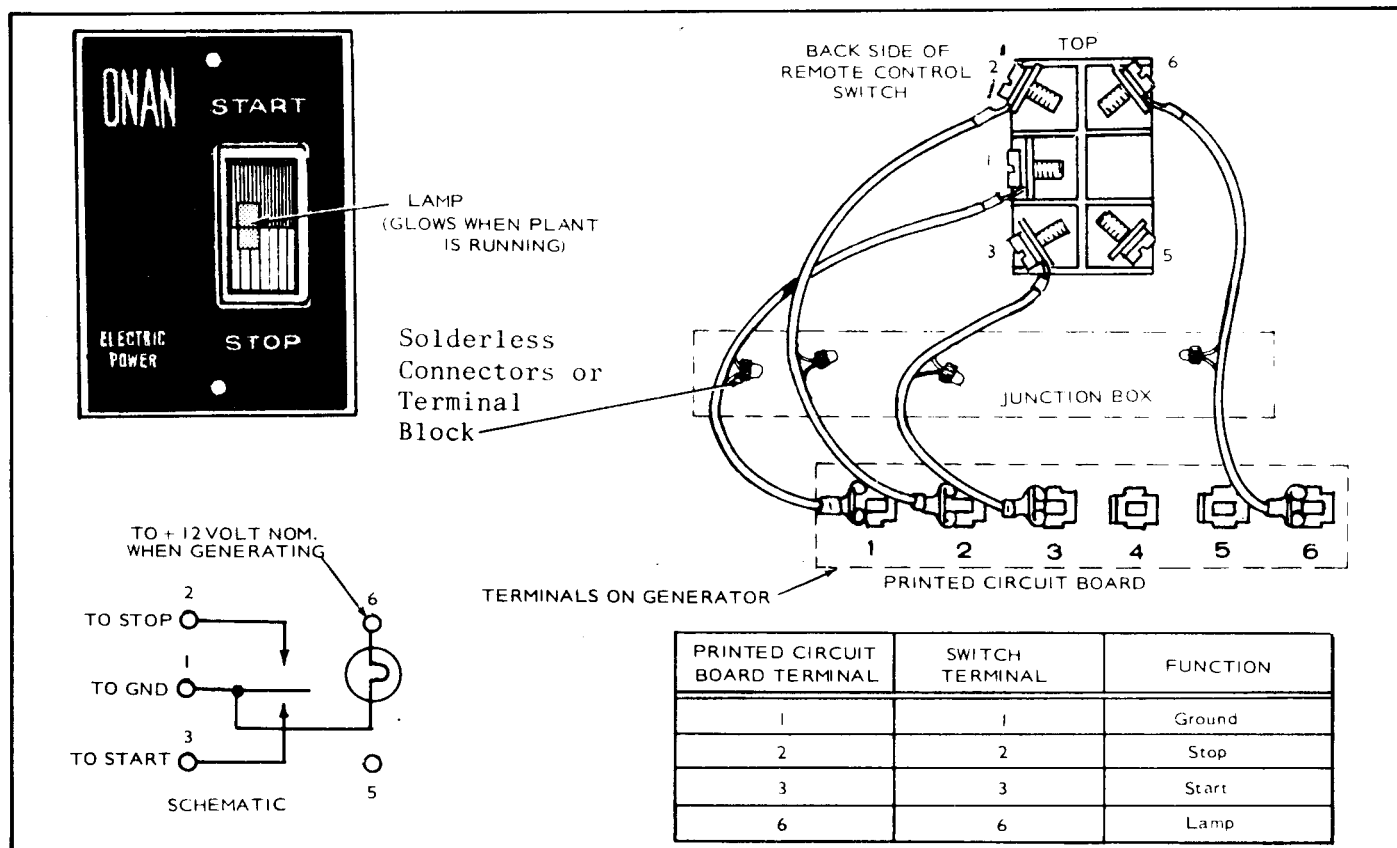

FIGURE 61. REMOTE CONTROL SWITCH (300-0985)
4. Make connections to remote switch (Figure 61), then secure remote switch to motor home panel with #5 wood screws.